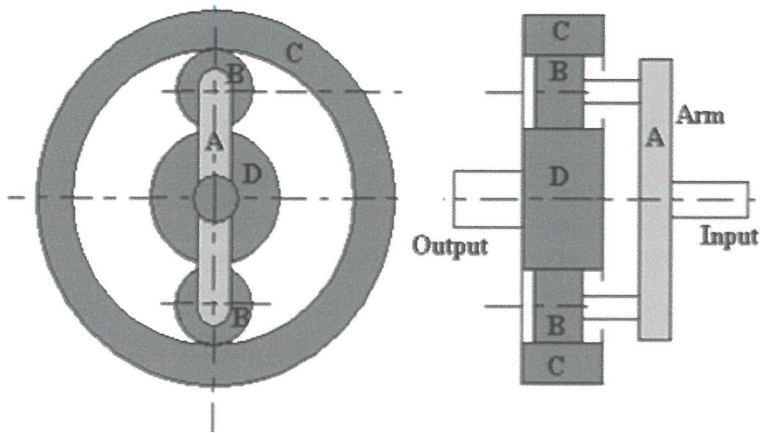

Figure Q2 (a)
- (iii) An epicyclic gear box is as **Figure Q2(a)**. An epicyclic gear box has a fixed outer gear C with 260 teeth. The planet gears have 30 teeth. The input is the arm/cage A and the output is the sun gear D. Calculate the number of teeth on the sun gear and the ratio of the gear box. (6 marks)